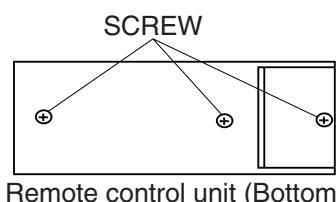

Fig. 1-1
1. Prepare normal remote control unit. (Part No. N0107UD) Remove 3 screws from the back lid. (Fig. 1-1)